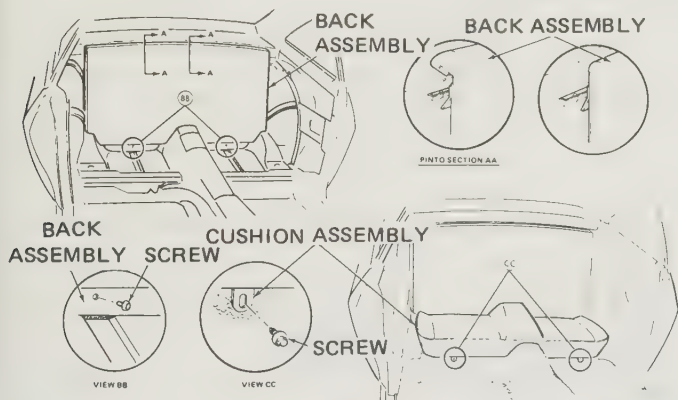

Fig. 12.33. Rear seat installation (fixed type) (Sec. 46)
- 1 Undo and remove the two screws that secure the front edge of the seat cushion (Fig. 12.33).